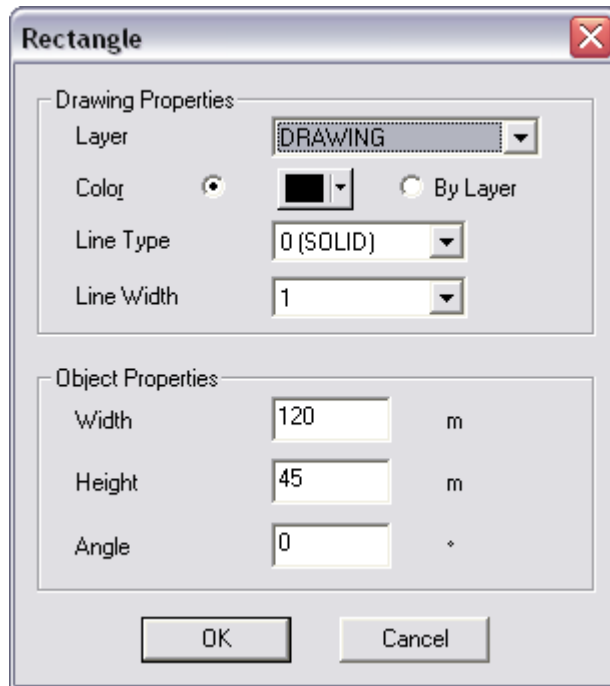

Figure SM 2
7. Now select *Modify|Change* and click on the border of the rectangle. Edit the “**Width**” to be **120** and the “**Height**” to be **45** as in Figure SM 2. Click **[OK]**.